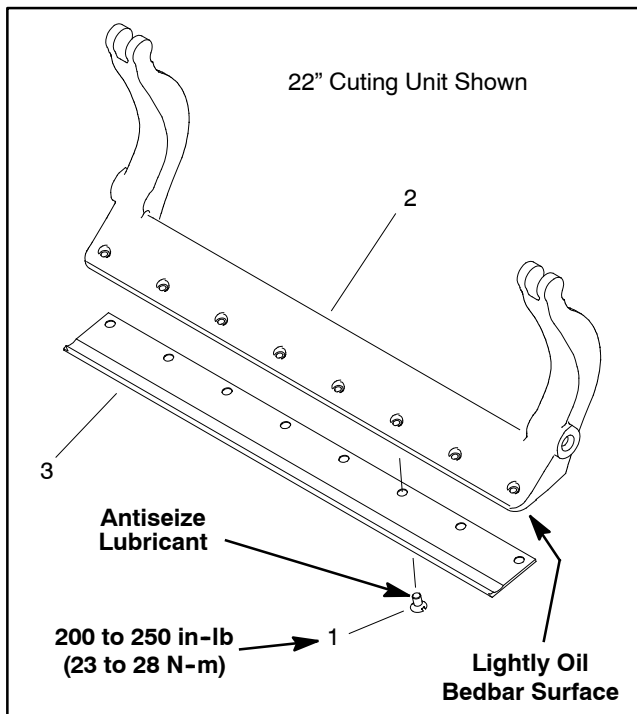

Figure 29
2. Remove screws from bedbar using a socket wrench and bedknife screw tool (see Special Tools in this chapter). Discard screws. Remove bedknife from the bedbar (Fig. 29).